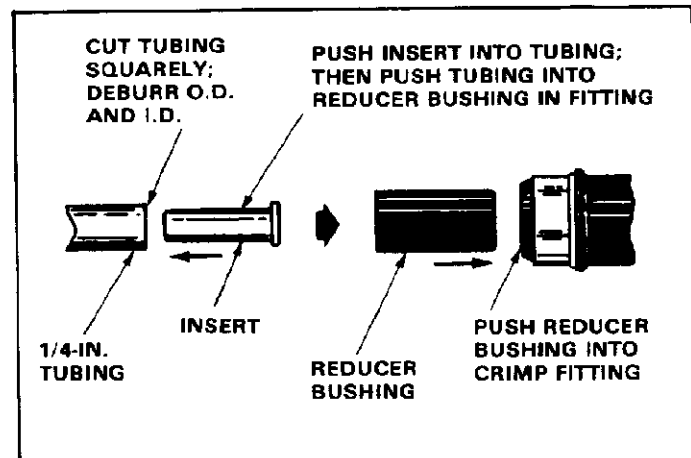

Fig. 4—Use of Reducer Bushing
- (a) Cut tubing squarely. See Figure 4.
- (d) Push the Reducer Bushing into the crimp fitting (Fig. 4).